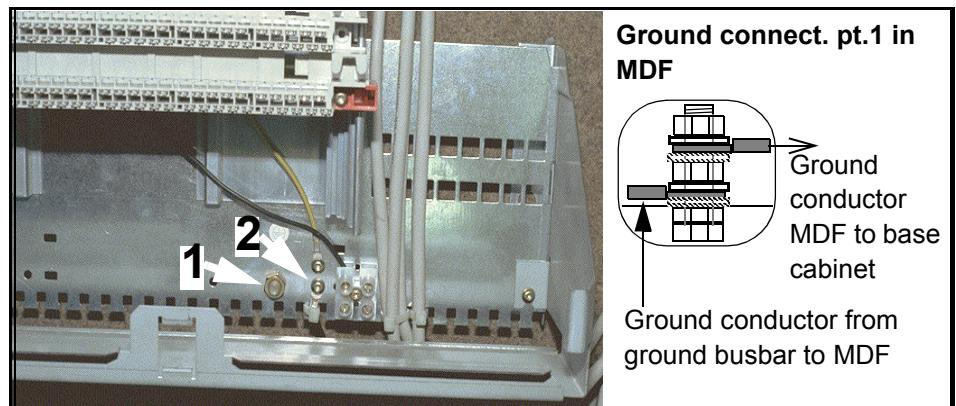

Figure 1
1. Connect the ground connector (green/yellow) from the ground busbar (building ground) to terminal connection (1) of the first main distribution frame (see Figure 1).
2. If several main distribution frames are installed, connect a second ground conductor to the terminal connection (2) of the first main distribution frame (see Figure 1) and connect this line to terminal connection point 2 of the second main distribution frame.